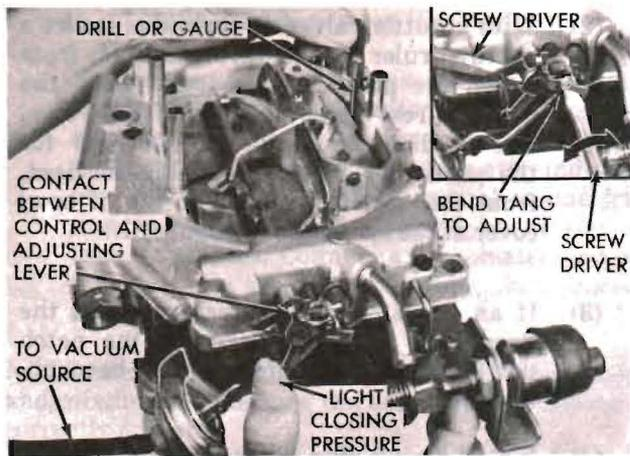

Figure 27. Adjusting Vacuum "Kick"—Slide 2197 & 2374
- (1) Off vehicle — open the throttle valves and move the choke valve to closed position with the control lever. Release the throttle before releasing choke to trap the fast-idle cam in closed choke position.
- (2) On vehicle — with engine running, back off the fast-idle speed screw until the choke can be closed to the kick position at curb idle. (Note number of screw turns required so that fast-idle can be returned to its original adjustment.)
- (3) Off vehicle — using an auxiliary vacuum source, disconnect the vacuum hose from carburetor and connect it to the hose from vacuum supply with a small length of tube to serve as a fitting. Removal of the hose from diaphragm may require forces which could damage the diaphragm. Make sure the diaphragm is securely mounted on the carburetor. Apply a vacuum of 10 or more inches of Hg.
- (4) Insert a specified (See specifications) drill between the long side (lower edge) of choke valve and the air horn wall. (See figure 27.) Apply sufficient closing pressure on the choke control lever to provide a minimum choke valve opening without distortion of the choke linkage. (Note that some carburetor models extend a spring
- (5) Adjustment will be necessary if a slight drag is not obtained as the drill is being removed. Bend the tang indicated in figure 27 to change contact with end of diaphragm rod. Adjust the tang only while applying a counter force to the adjustment lever. Counter force can be provided by a screwdriver placed in the U-shaped opening between the lever and shaft.